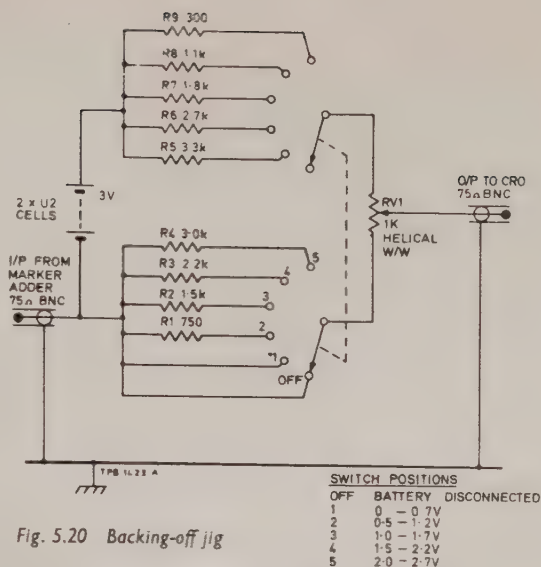

Fig. 5.20 Backing-off jig
- Backing-off jig, see Fig. 5.20.